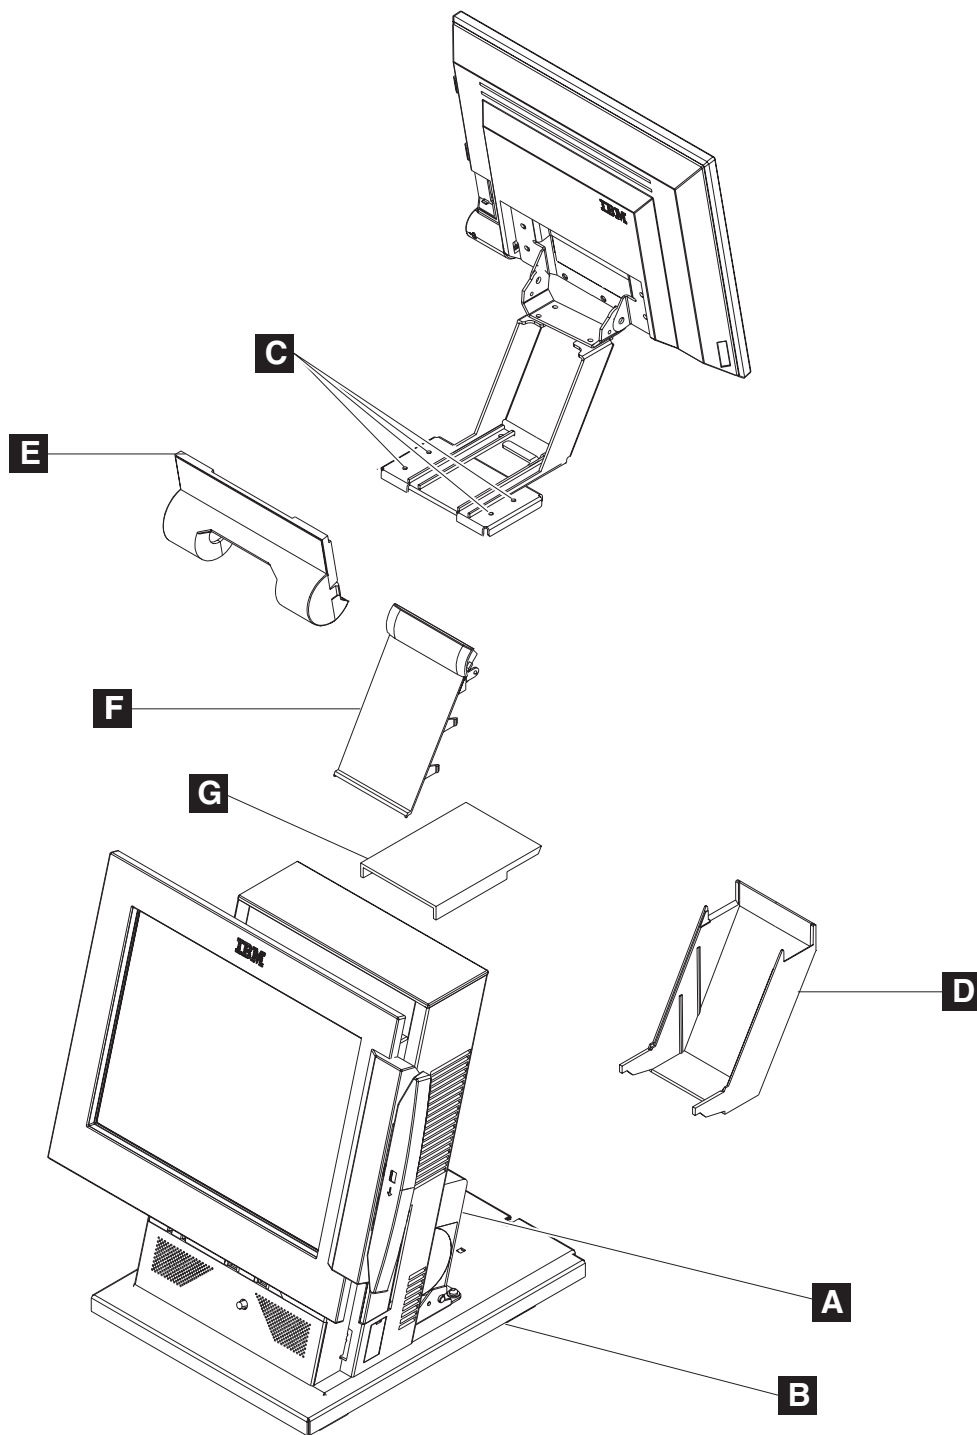

Figure 103. 4820 SurePoint Solution installation
3. Remove the 4820 filler panels **E**, **G**, **F**, and **D** as shown in Figure 103 on page 128.
4. Disconnect the 4820 display cable from the external video connector on the 4820 and from the rear connector panel **A** of the SurePOS 500 Models 5x3 and 544/564, as shown in Figure 103.